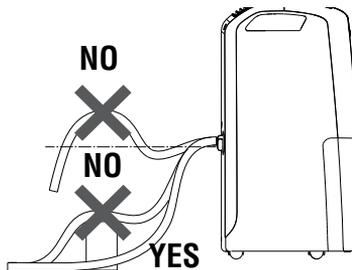

fig. 5
- 3) Make sure the end of the hose is no higher than the spout (fig. 5) or water could remain in the tank. Make sure there are no kinks in the hose.